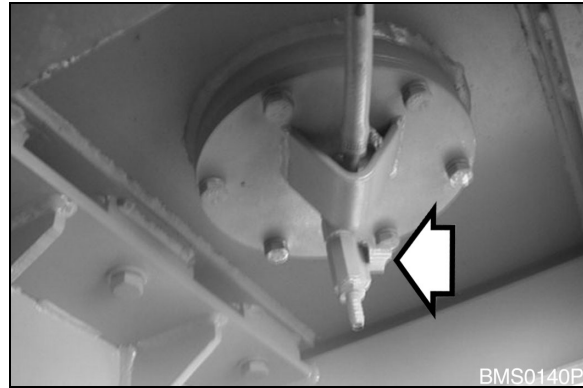

Figure 6
13. Place a large enough container under the fuel tank to collect remaining fuel. Open the drain valve (Figure 6) at bottom of the tank and drain.